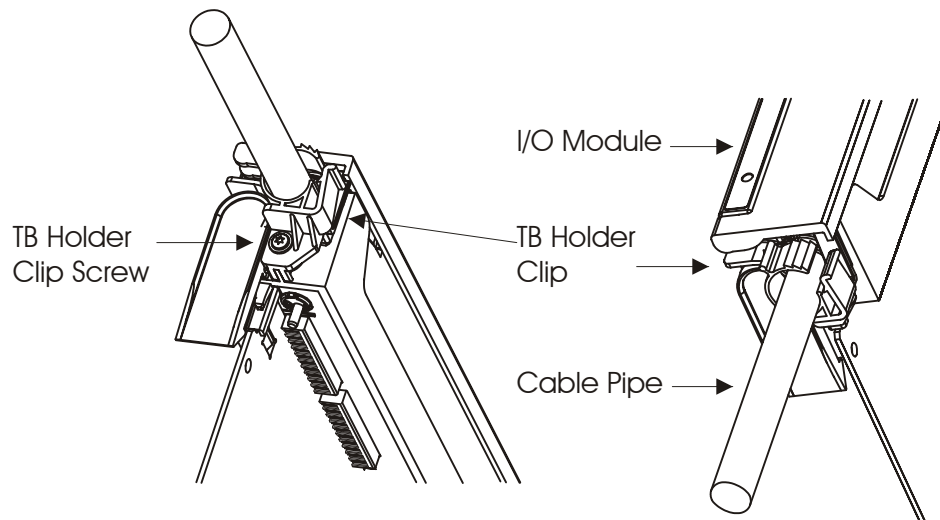

Figure 5-7 I/O Module with Terminal Block (TB) Holder Clip
- 2) Using the supplied screw, attach the TB holder clip to the bottom of the I/O module. (see Figure 5-7)
- 9) If a TB holder clip was attached to the I/O module, slide the cable between the two edges of the clip, and press the clip closed to secure the TB holder to the module. See Figure 5-7.